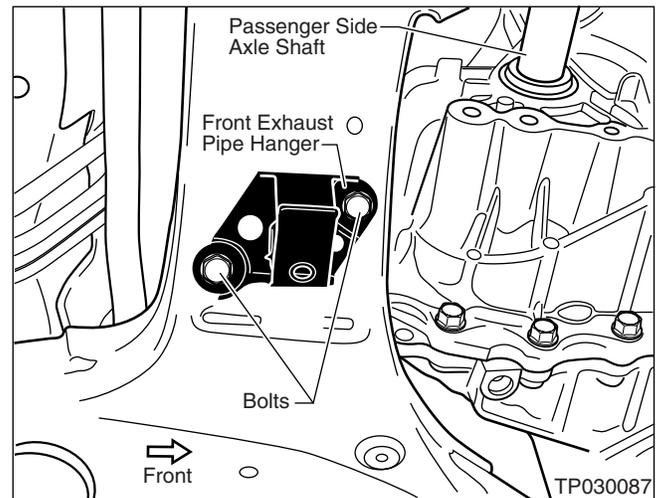

Figure E14
18. Remove two bolts and remove the Front Exhaust Pipe Hanger (see Figure E14).